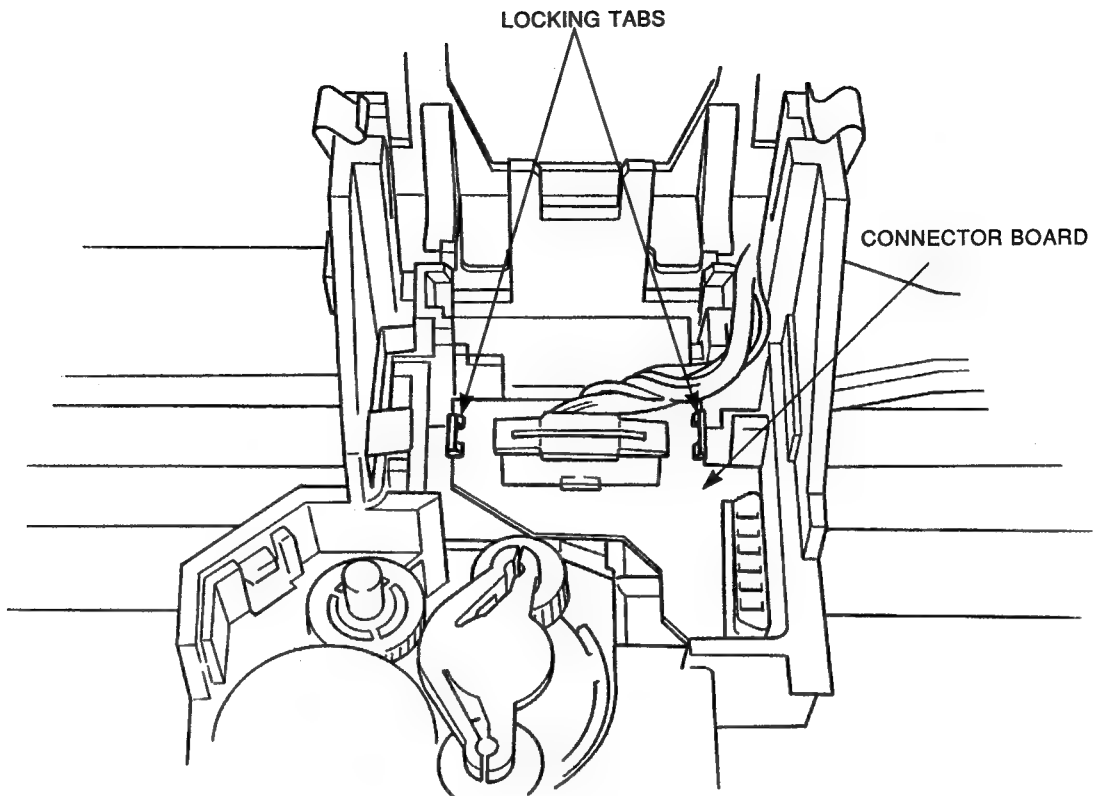

Figure 3-15 Connector Board
2. With a screwdriver blade, unlock the two locking tabs and lift the carrier connector PCB out of the carrier (see Figure 3-15).